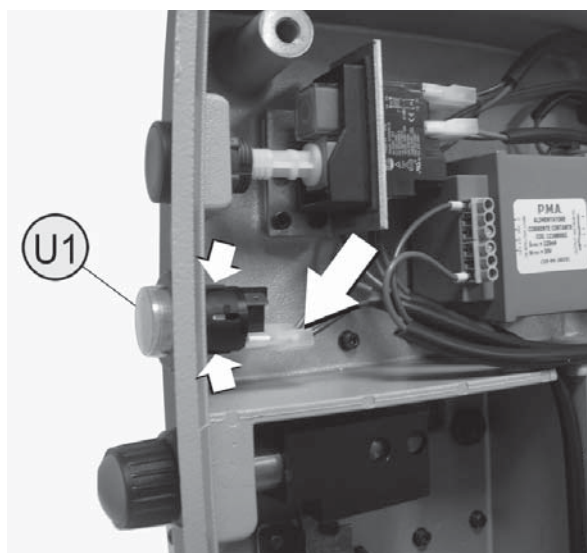

Fig. 69
- 2) Disconnect the 2 push button connectors (U1), observing their position carefully (Fig. 69).